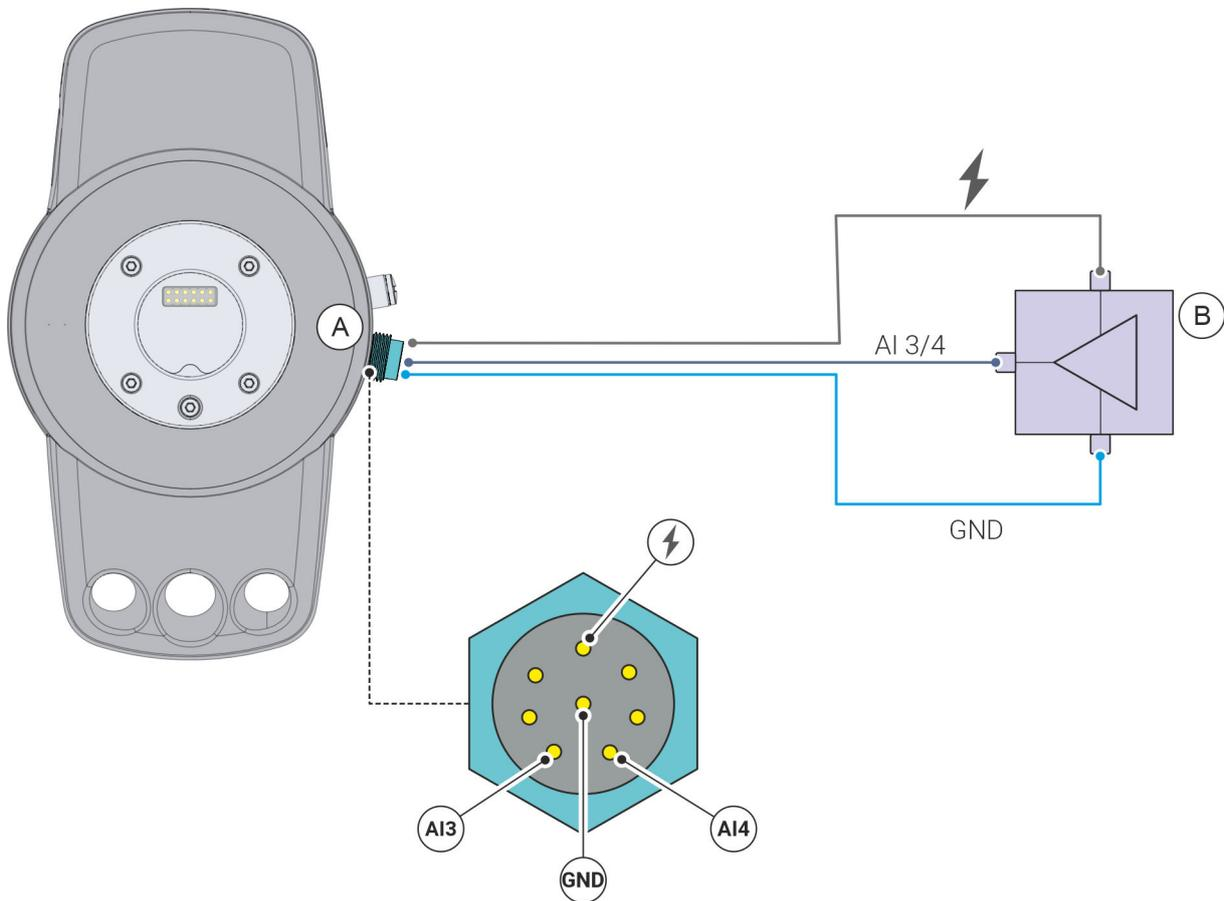

Fig. 65 Connecting an analogue sensor via analogue inputs
- (A) External 8-pin electrical interface
- (B) Analogue sensor
01. Connect the analogue sensor to the analogue input **AI 3** or **AI 4** of the 8-pin interface Fig. 65.
02. Connect the analogue sensor to the 24 V power supply of the 8-pin interface Fig. 65.
03. Connect the analogue sensor to the ground connection (GND) of the 8-pin interface Fig. 65.